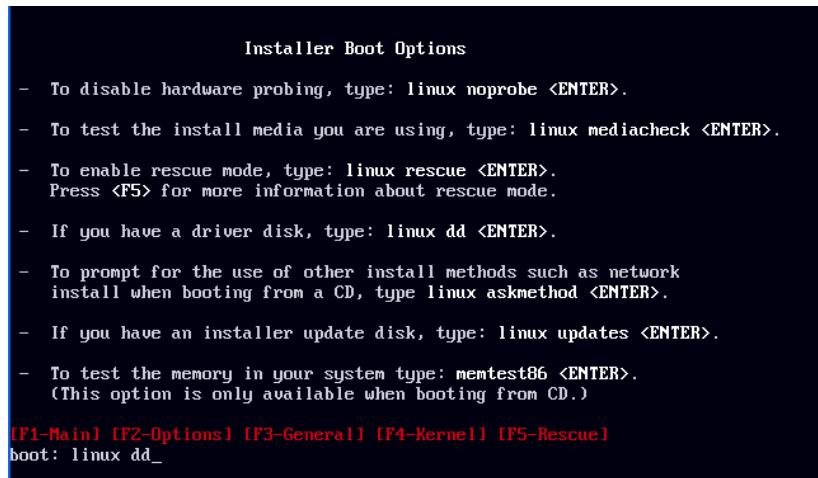

Figure 4-10. RHEL 5.3 Installer Boot Options Screen
16. In the Installer Boot Options screen, type `linux dd` at the boot prompt (Figure 4-10).